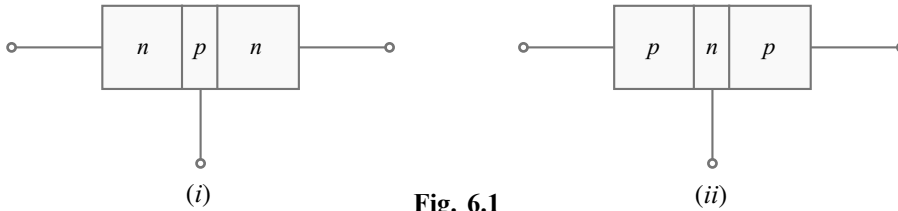

Fig. 6.1
An  $n$ - $p$ - $n$  transistor is composed of two  $n$ -type semiconductors separated by a thin section of  $p$ -type as shown in Fig. 6.1 (i). However, a  $p$ - $n$ - $p$  transistor is formed by two  $p$ -sections separated by a thin section of  $n$ -type as shown in Fig. 6.1 (ii).
**Note.** The two junction transistor shown in Fig. 6.1 is called bipolar junction transistor (*BJT*) because two (*Bi* means two) polarities charge carriers (*viz.* positively charged holes and negatively charged free electrons) are involved in its operation. *Note that in this chapter when we use the terms transistor, it means bipolar junction transistor (BJT) unless stated otherwise.*